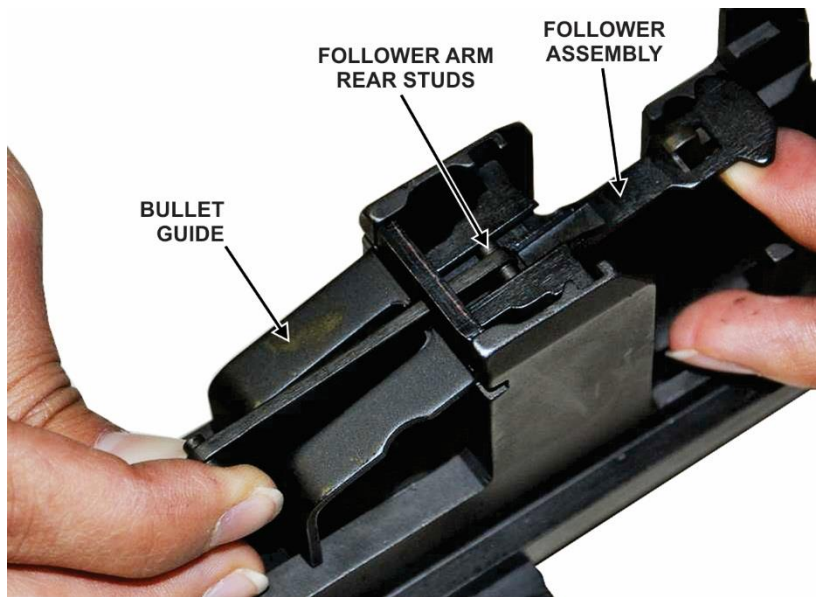

Figure 47. Installing follower arm
- 14) Lift the follower assembly and install the follower arm by passing its rear studs through the bullet guide and inserting them into the guide grooves on the follower assembly (fig 47).